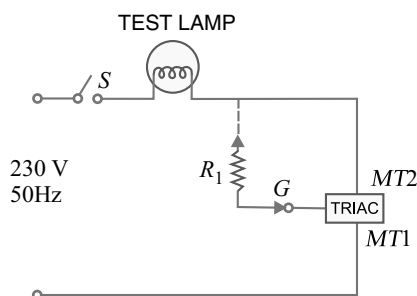

Fig. 19.13
**Solution.** Fig. 19.13 shows a simple circuit for testing a triac. The test lamp serves two purposes. First, it is a visual indicator of current conduction. Secondly, it limits current through the triac.